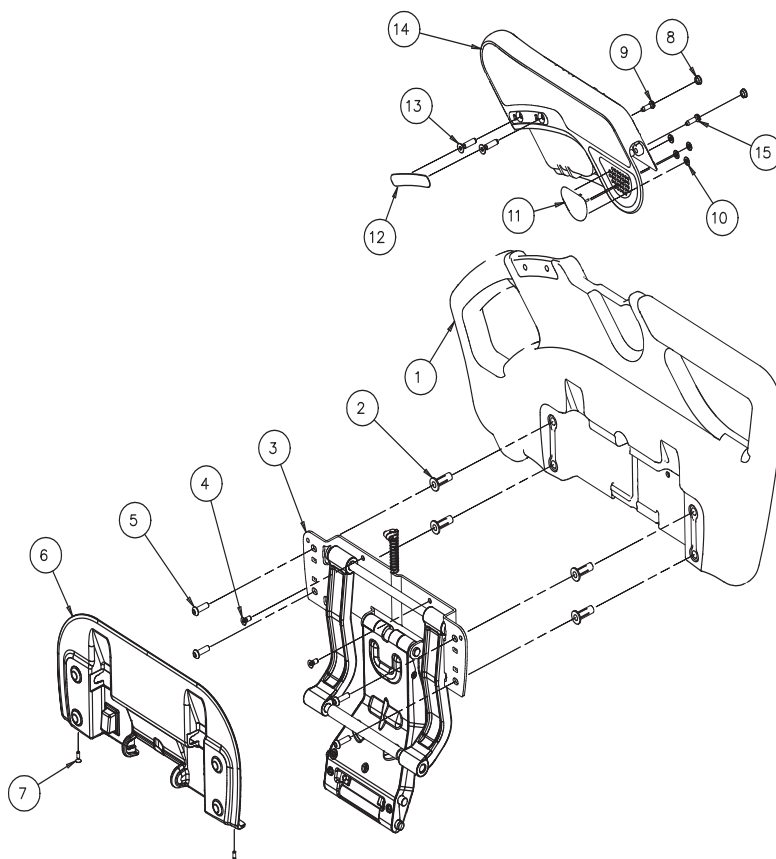

Figure 15: Safety Side Assembly Head End
This section describes how to replace the Patient Control Unit. Reference is made throughout this section to Figure on page 22 and Figure 15 on page 48.
- 14.1.1 Pry off the patient control screw cover (Fig 15, Item 12). Remove three Ejot screws (Fig 15, Item 13).
- 14.1.2 Pull the patient control unit (Fig 15, Item 14) upwards off the head end split side rail moulding (Fig 15, Item 1). Take care not to strain the attached wiring.
- 14.2.2 Install the patient control unit (Fig 15, Item 14) in the head end split side rail moulding (Fig 15, Item 1). Tuck any excess length of cable down inside the split side rail moulding.
- 14.2.3 Fit three screws (Fig 15, Item 13) to secure the patient control unit and refit the screw cover (Fig 15, Item 12).